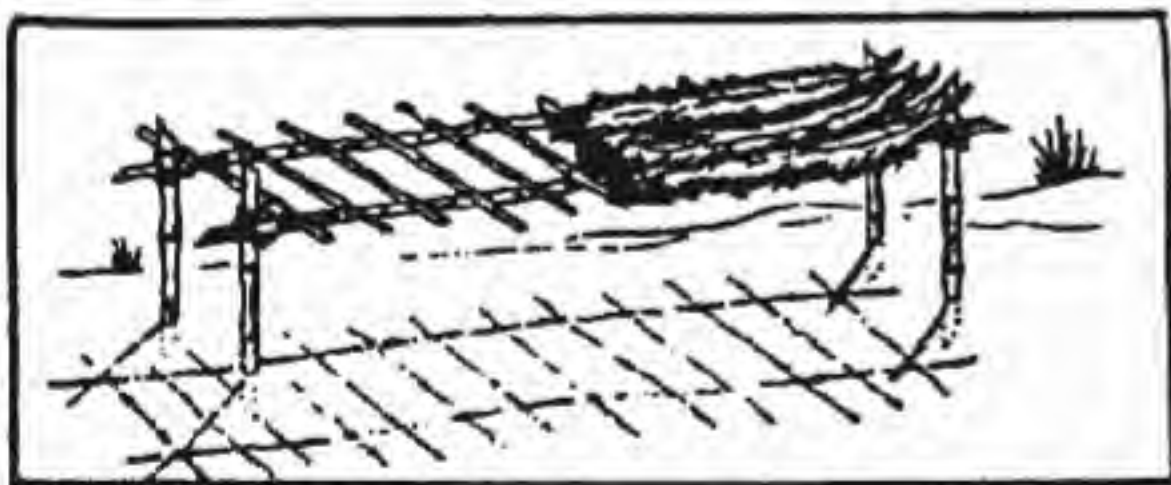

Figure 6. Bamboo bed.
(3) Beds. Don't sleep on the ground; make yourself a bed of bamboo or small branches covered with palm leaves (see figure 6). A parachute hammock may serve the purpose. You can make a crude cover from tree branches or ferns; even the bark from a dead tree is better than nothing.